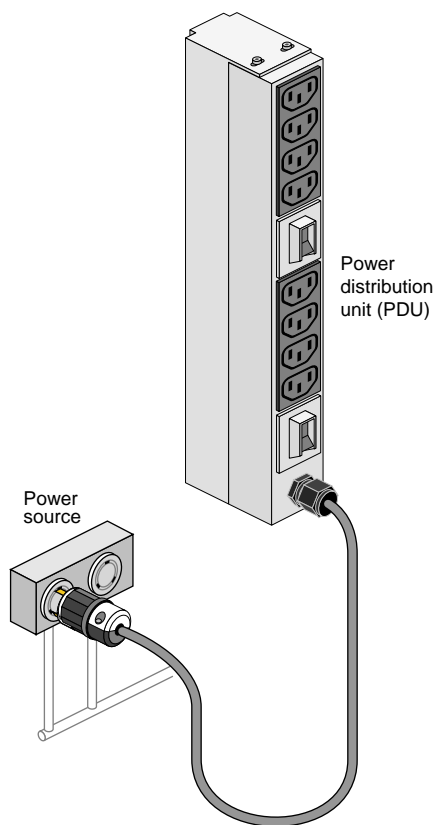

Figure 1-3 Eight-Outlet Single-Phase PDU Example
4. Make sure that all PDU circuit breaker switches (see the examples of I/O-rack PDUs in Figure 1-3 on page 6, and Figure 1-4 on page 7) are turned on to provide power when the system is booted up.